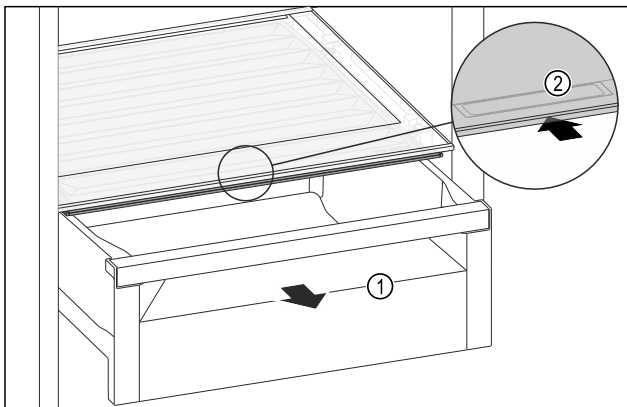

Fig. 141
- ▶ Pull out the drawer Fig. 141 (1).
- ▶ Grasp the recessed grip Fig. 141 (2) on the compartment lid and push the compartment lid backwards at the same time.